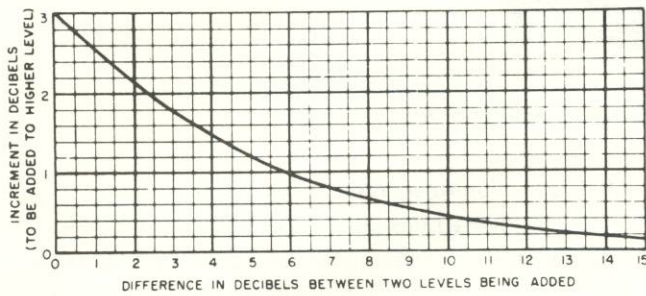

Figure 3-25. Decibel manipulation graph.
Figure 3-25 can be used to add decibel levels. The first step is to subtract the 2 dB levels to obtain the difference.
- b. Carefully remove the microphone (see Figure 3-25) and set it aside.